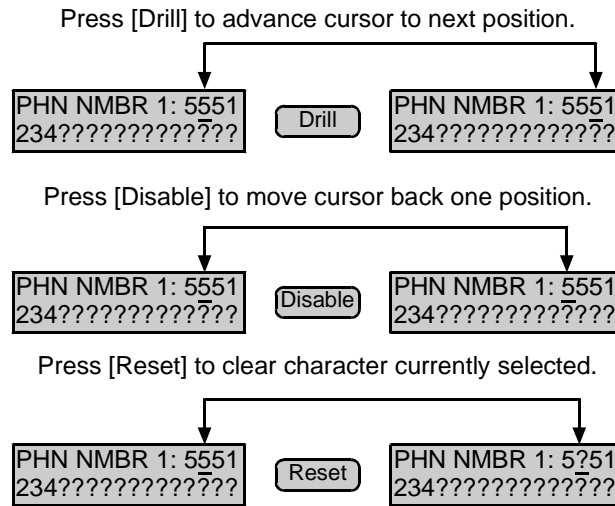

Figure 17: Additional Functions of the [Drill], [Disable] and [Reset] Keys.
- D) **[Drill] Key:** Advances to the next programmable feature or character position. See Figure 17.
- E) **[Disable] Key:** Moves back to the previous programmable feature or character position. See Figure 17.
- L) **[Reset] Key:** Initiates a manual reset of the DCT-1/1E. See Section 6.5 “Reset” for more information. Clears the character selected by the cursor when pressed. See Figure 17.